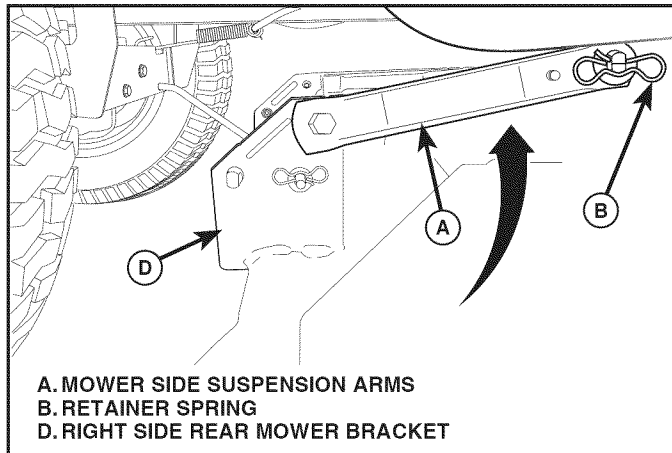

Fig. 36
6. ATTACH MOWER SIDE SUSPENSION ARMS (A) TO CHASSIS (See Fig. 36)
- Position front hole in side suspension arm (A) over pin on outside of tractor chassis and secure with large washer and large retainer spring (B).